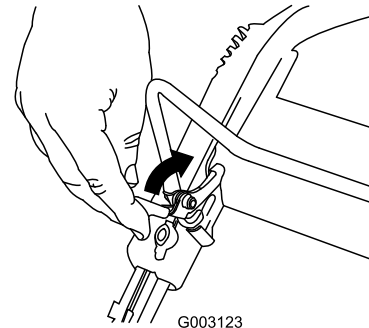

Figure 18
1. Pull the control-bar lock back (Figure 18).